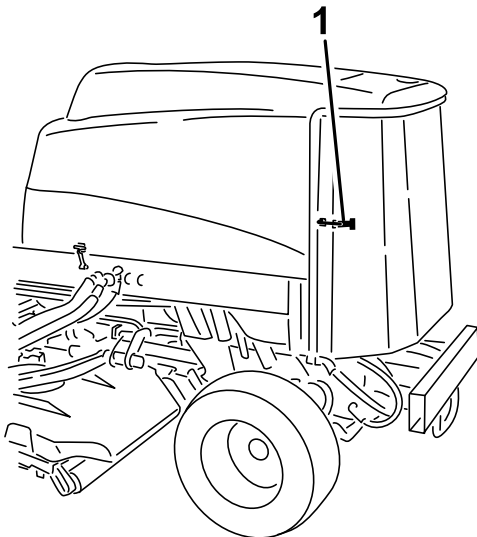

Figure 111
2. Unlatch and swing open the rear screen (Figure 111).